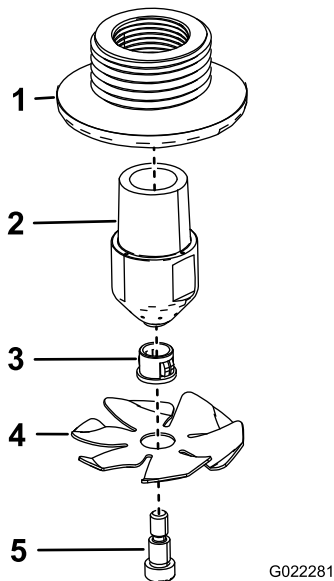

Figure 7
1. Assemble the 2 rinse nozzles as shown in Figure 7.